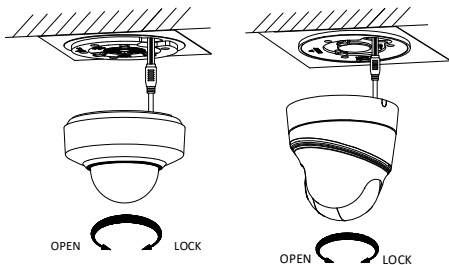

Figure 2-41 Secure the PTZ Camera
3. Insert two PM4×10 screws into the ceiling, as shown in Figure 2-41.